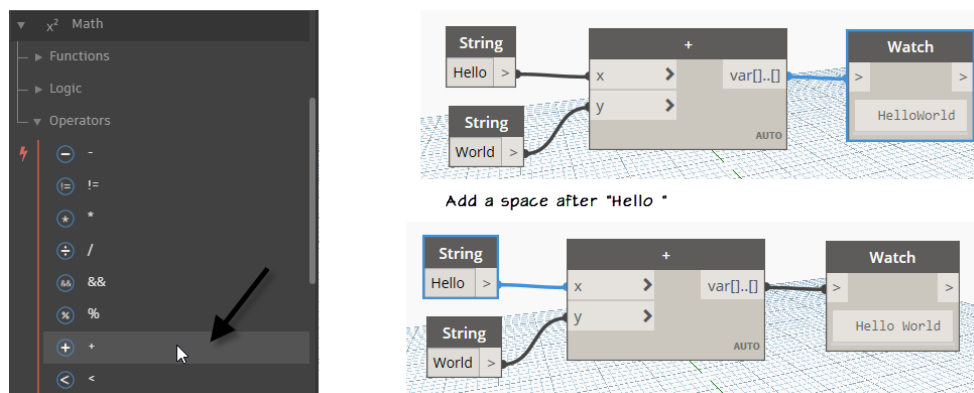

FIGURE 14
8. Wire "Hello" into **x** and "World" into **y**. Then wire the output of + to the input of the **Watch** node (see Figure 14).